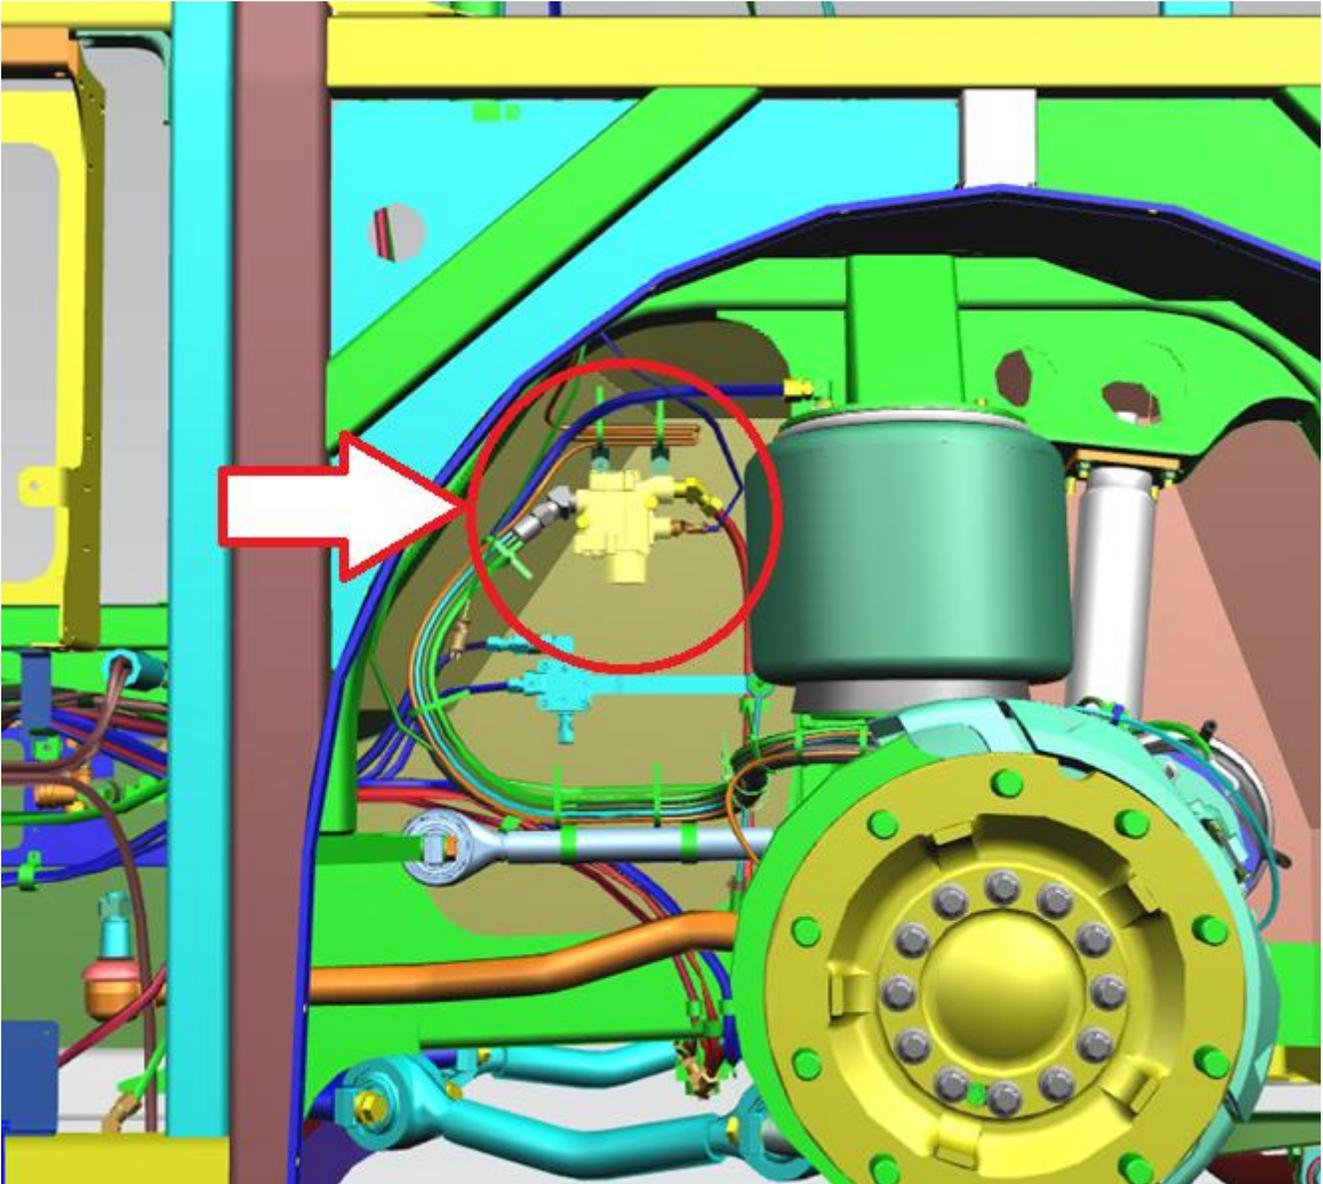

Figure 1: ABS modulator to be accessed (typical both sides)
3. Locate the air line connecting the front axle brake chamber and the front axle ABS modulator on both the C/S and S/S of the bus. The connection at the modulator valve is shown in Fig. 1.